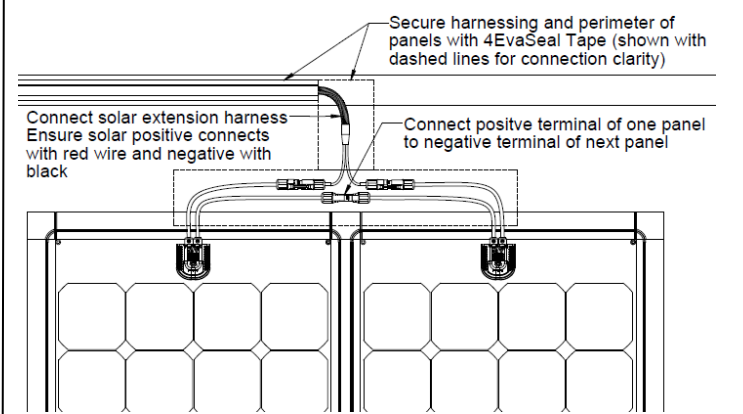

FIGURE 3
6. If installing multiple panels, use the MC4 cables that are connected to the solar panel junction box. Connect the positive MC4 connector to the negative connector of the adjacent panel. This will connect the panels in series and compound the output voltage of the panel. (Figure 3)